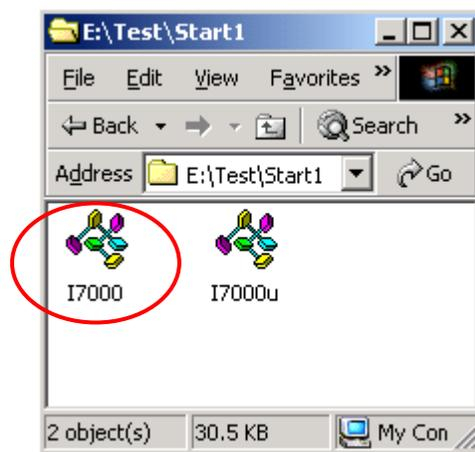

Figure 1-1-1. Visual Basic declaration files.
2. Copy the declaration files into your new project folder, Refer to Figure 1-1-1.